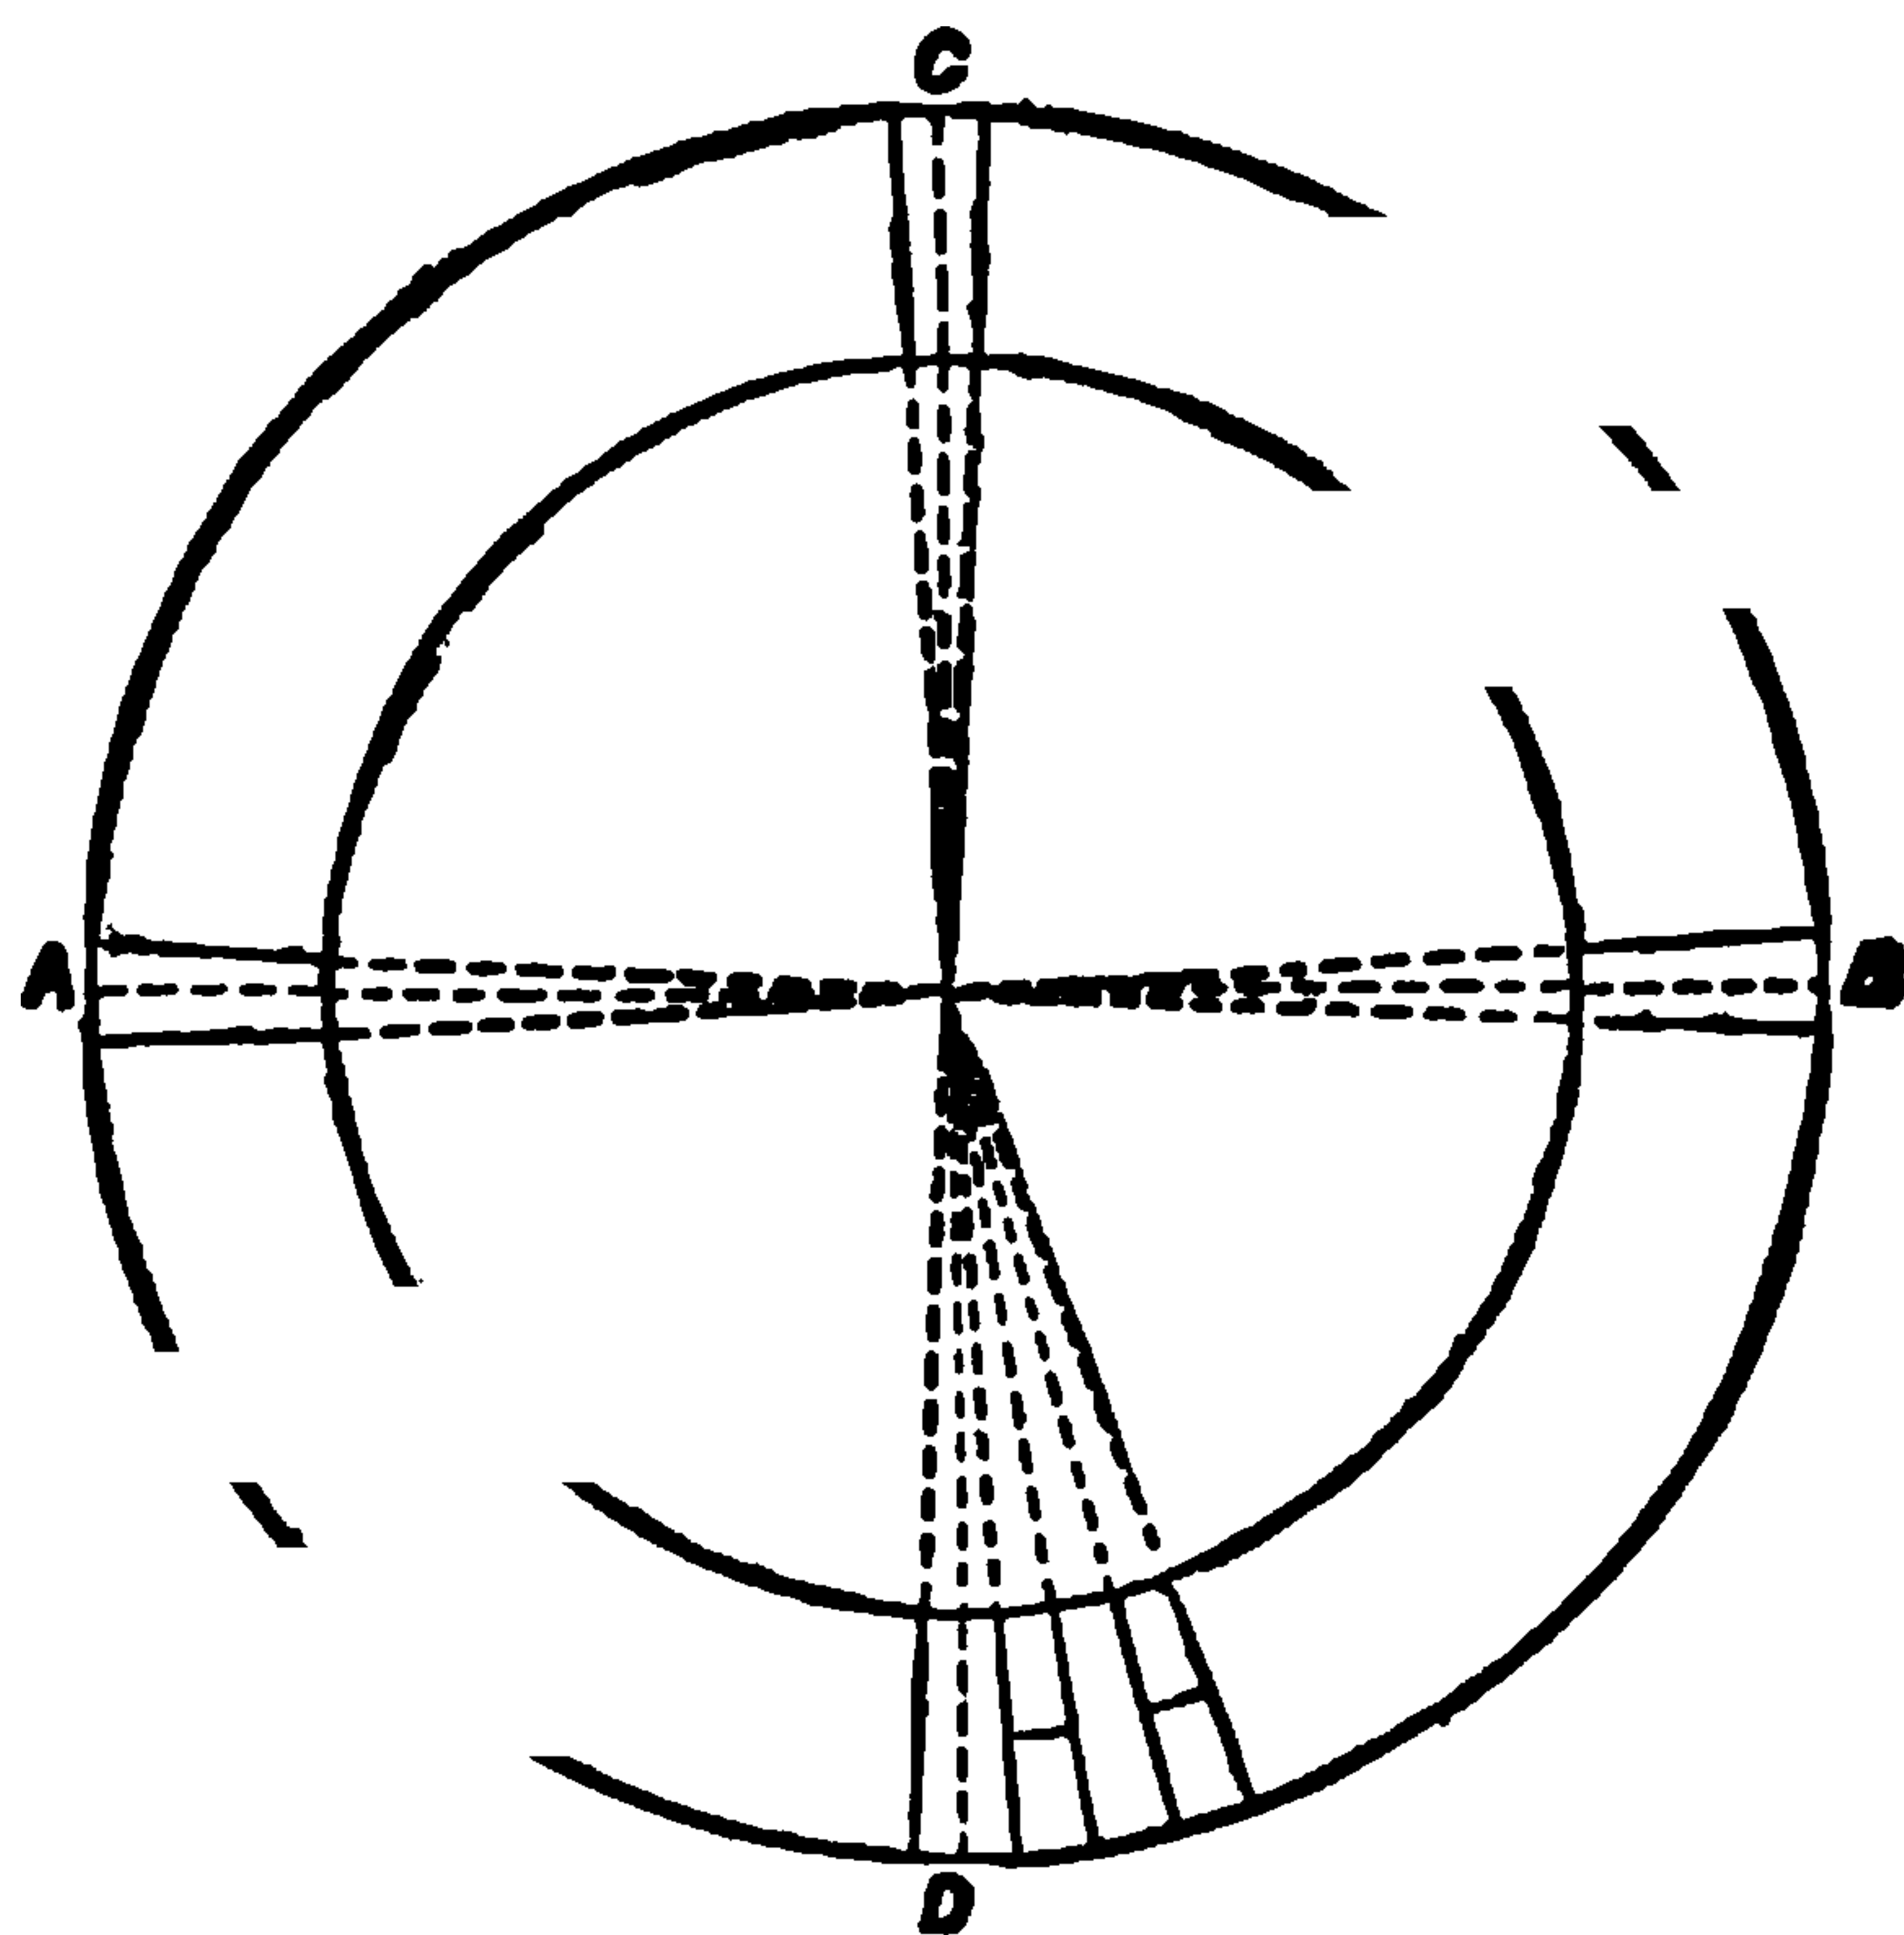

Fig. 32.
*The Wheel Arch, or Bull's-eye* (Fig. 32).--In this arch the outer circle is divided out in such a